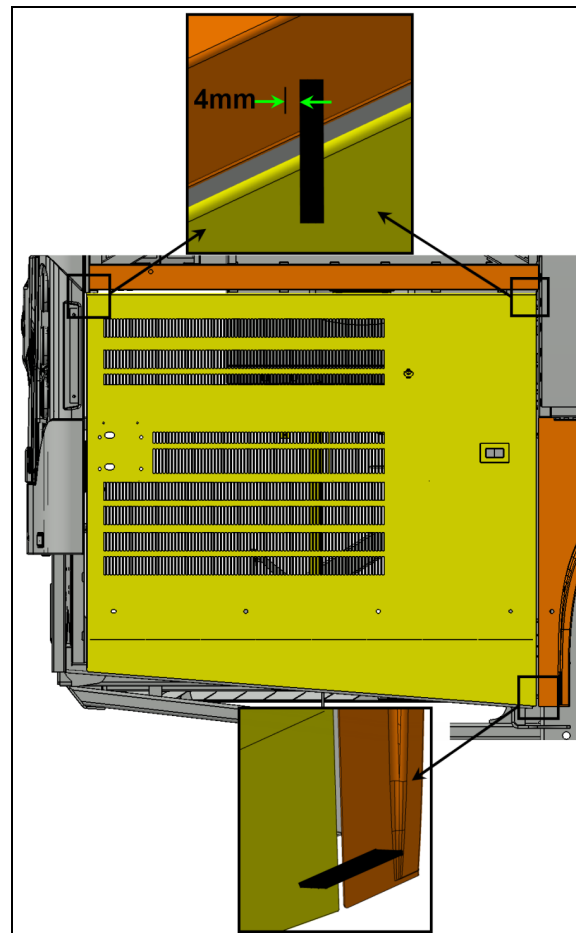

FIGURE 139
- Loosen the bolts, (details "A" & "C", Figure 139) holding the hinge to the vehicle structure to shift the door "LEFT or RIGHT".
- Loosening the bolts (details "B" and "D", Figure 139) allows the door to be shifted "UP or DOWN".